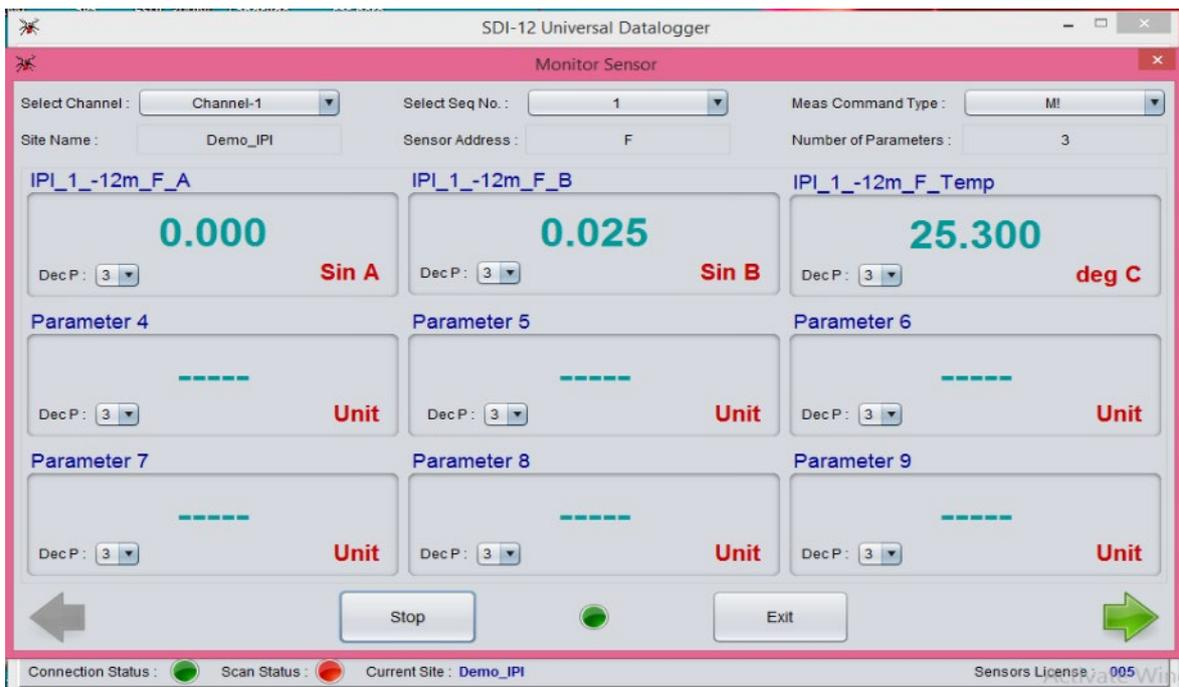

Figure 7-24 Measured sensor values appearing in Monitor Sensor window
- 23 Sensor readings for selected “Channel” & “Sequence no.” will be displayed as shown in figure 7-24 below. Click “Exit” button to close this window.